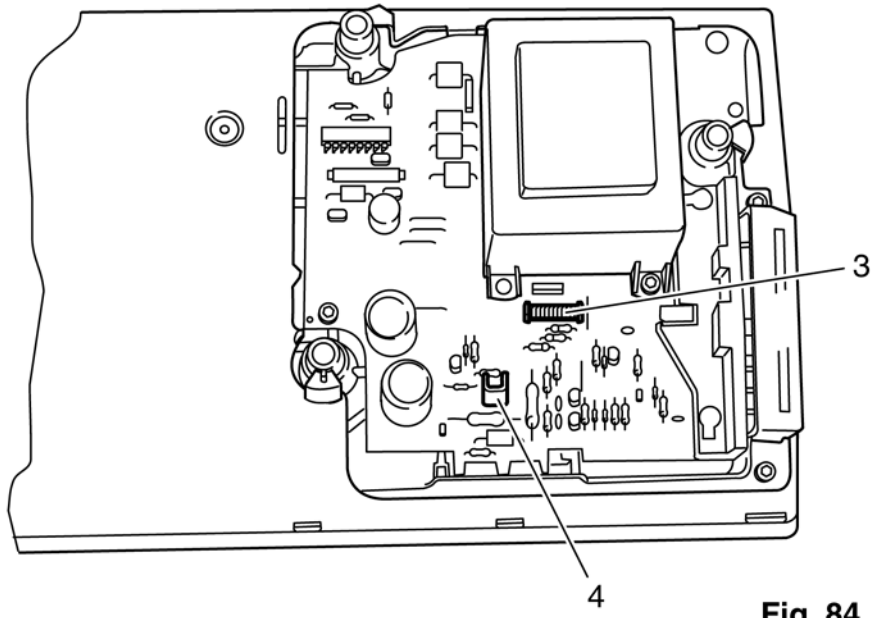

Fig. 84
- Remove the connection plug of twelve-wire flat cable 3 as well as the connection plug of motor cable 4 from the circuit board (fig. 84).